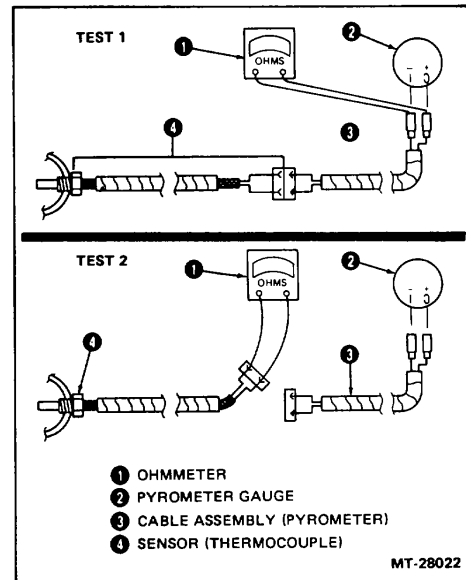

Figure 25 - Pyrometer Tests
The exhaust pyrometer system (Figure 25) consists of the dash unit (gauge) mounted on the instrument panel, the sender unit (thermocouple) mounted in the engine's exhaust outlet and the connecting wiring circuits.
- b. Connect ohmmeter leads to sensor cable terminals (Test 1, Figure 25).
- b. Connect ohmmeter to sensor lead terminals (Test 2, Figure 25).